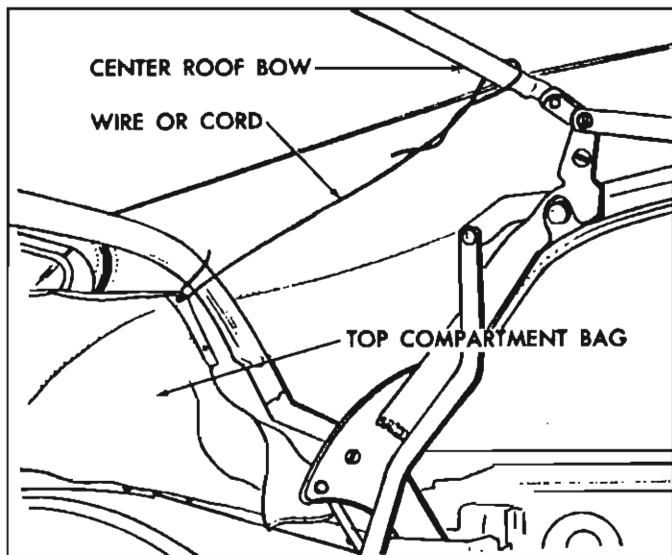

Fig. 42—Top Compartment Bag Tied to Center Roof Bow
7. Detach folding top compartment bag from rear seat back panel, thus exposing rear quarter and rear trim stick attaching bolts. Forward end of top compartment bag may be tied or wired to center roof bow to provide ready access to attaching bolts (fig. 42).